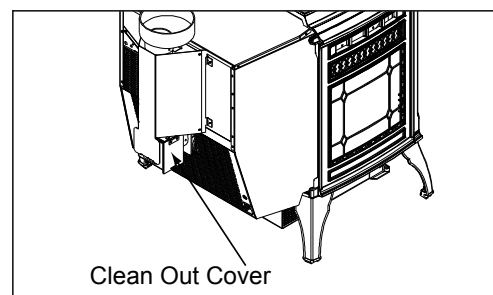

Figure 28.1
- b. Open the clean out cover. **See Figure 28.1.**